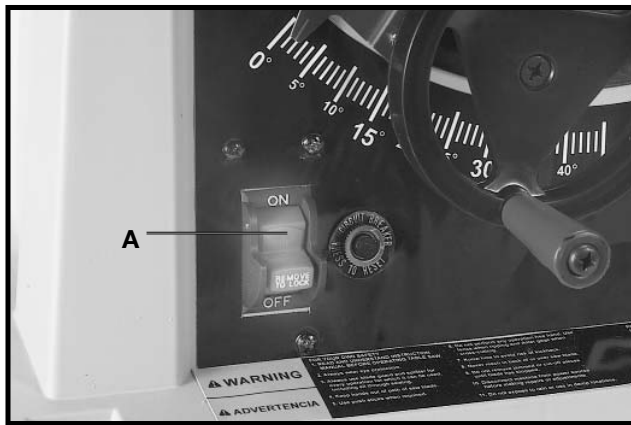

Fig. 27
The on/off switch (A) Fig. 27 is located on the front of the saw cabinet. To turn the saw “ON”, move the switch (A) up to the “ON” position. To turn the saw “OFF”, move the switch (A) down to the “OFF” position.